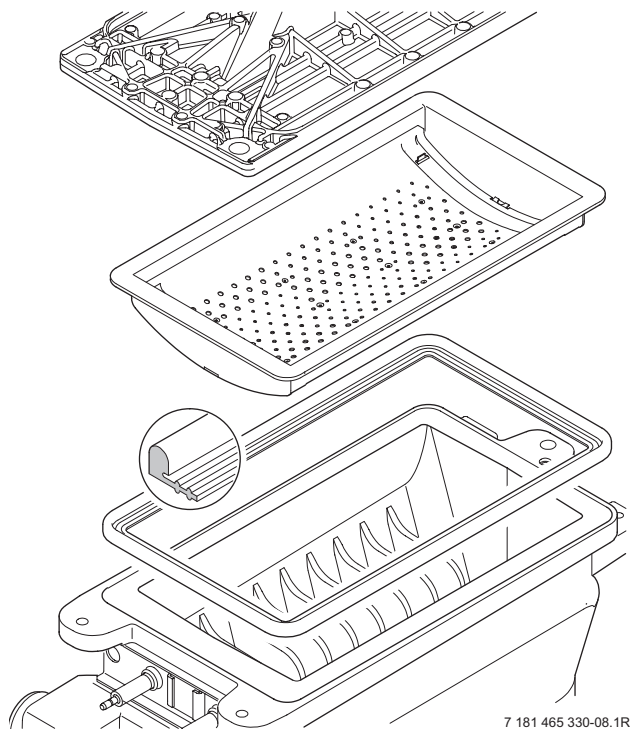

Fig. 58
- Remove the burner skin and clean components. Do not use a wire brush. Refer to fig. 58.